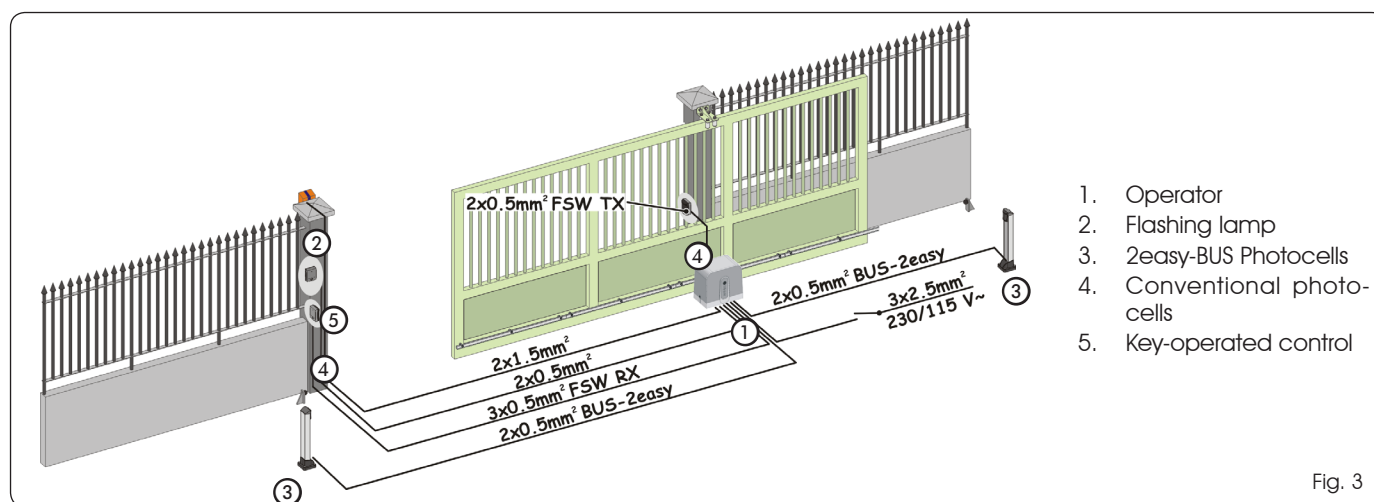

Fig. 3
4. Lay the electric cables for connection to the accessories and power supply as shown in Fig. 3.